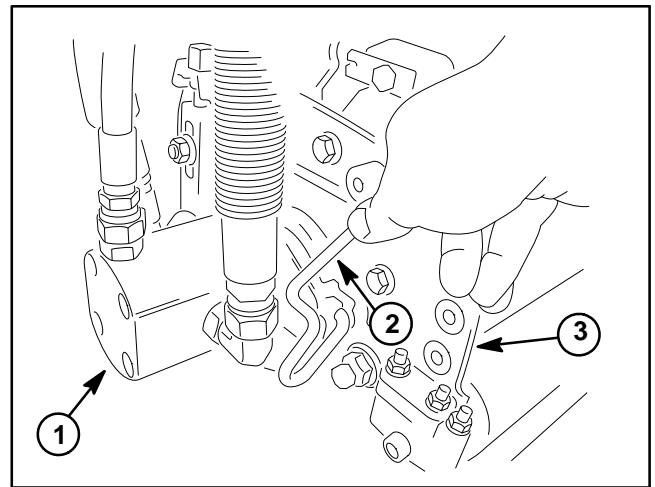

Figure 56
A. Push the motor clamp out of the slots on the motor mount toward the cutting unit sideplate (Fig. 56).